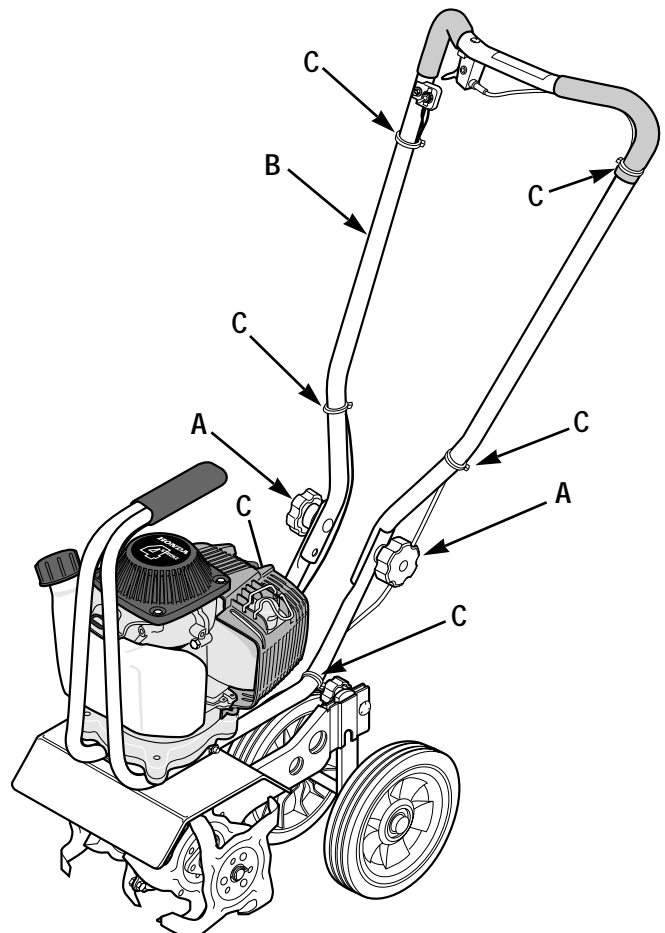

Figure 1
1. Loosen the two handlebar knobs (A, Figure 1) and unfold the handlebar into the operating position. Do not use force — if there is binding, continue to loosen the knobs.
3. Check the six (6) plastic ties (C, Figure 1). Ties must be positioned as shown.